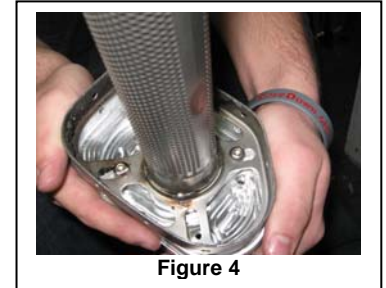

Figure 4
9. Attach the stock inner core to the new ProMoto Billet Endcap as shown in **Figure 4**